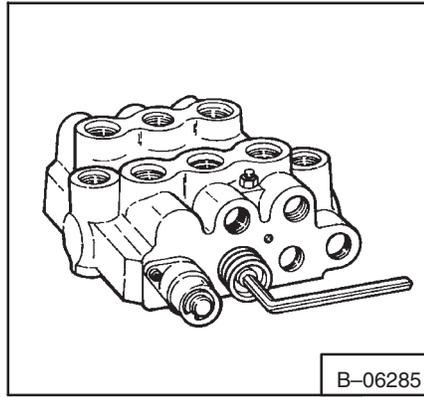

Fig. 2-36a Centering Spring Bolt
22. Use an allen wrench to remove the bolt which holds the centering spring to the tilt spool (Fig. 2-36a).